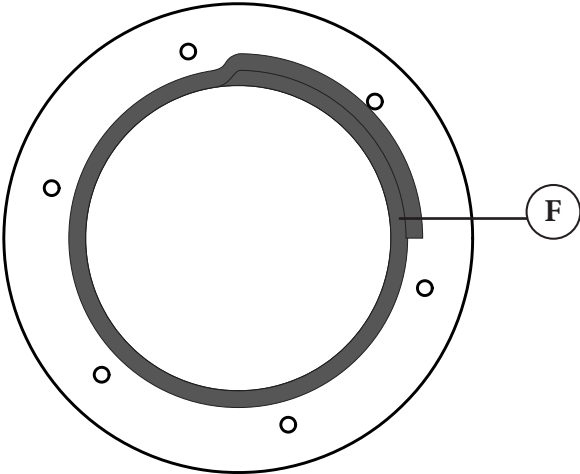

FIG. 2
- 2 Only, if you purchased AXD190001SS, apply the Gasket (F) onto the supplied lid along the edge of the cut hole. The Gasket should overlap around the circumference of the hole firmly pressing against itself in a tight spiral shape to avoid air leaks. Trim off excess gasket to avoid covering any bolt holes. [FIG. 2]